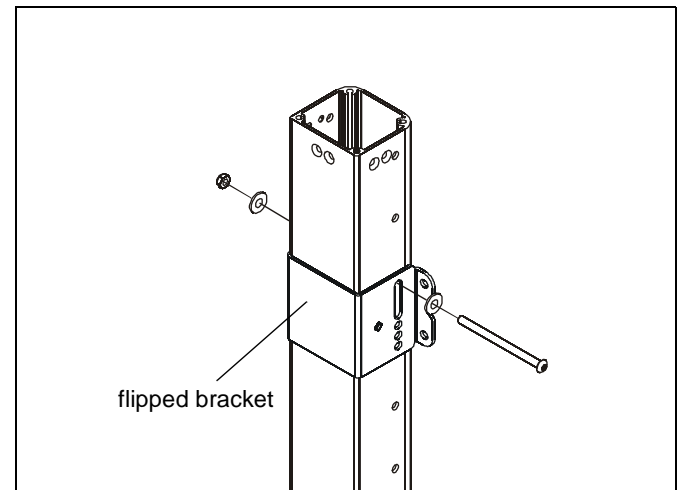

Figure 6
**NOTE:** Clamp brackets (P) may be flipped in order to use long slots for installation if necessary. (See Figure 6)